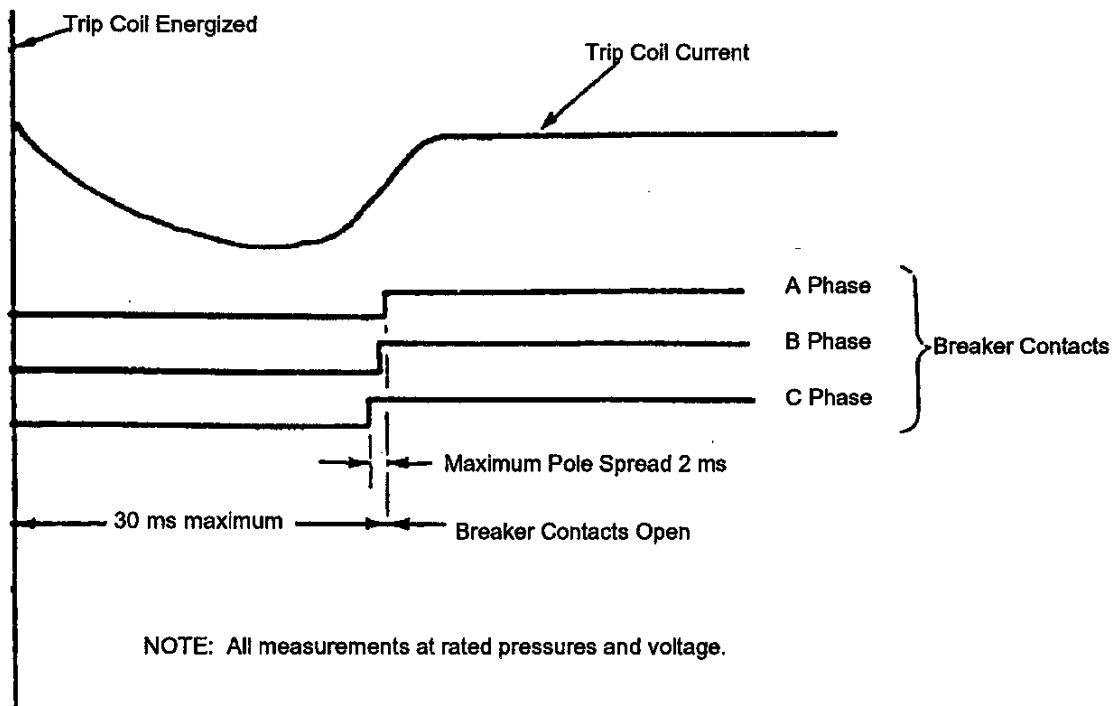

Figure 6
**Opening time** (contact part) - time interval elapsed between energization of the trip coil and the last arcing contact to break on opening (Fig. 6); units are in milliseconds (ms) or cycles (Hz).
**Inter-pole spread on opening** - time interval between the first arcing contact to break and the last arcing contact to break on opening (Fig. 6); units are most commonly in milliseconds (ms).